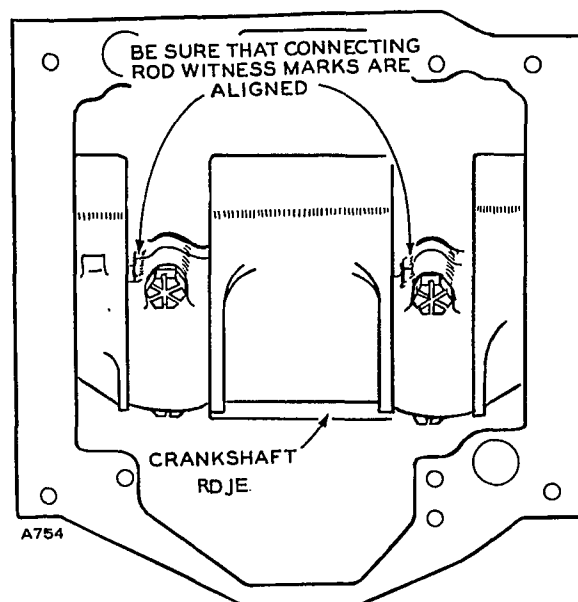

FIGURE 60. CONNECTING ROD CAP
5. Position each connecting rod on crankshaft, oil the journal, and install its rod cap with bearing half. When installing rod cap, position so raised witness mark on forging matches mark on connecting rod. See Figure 60.